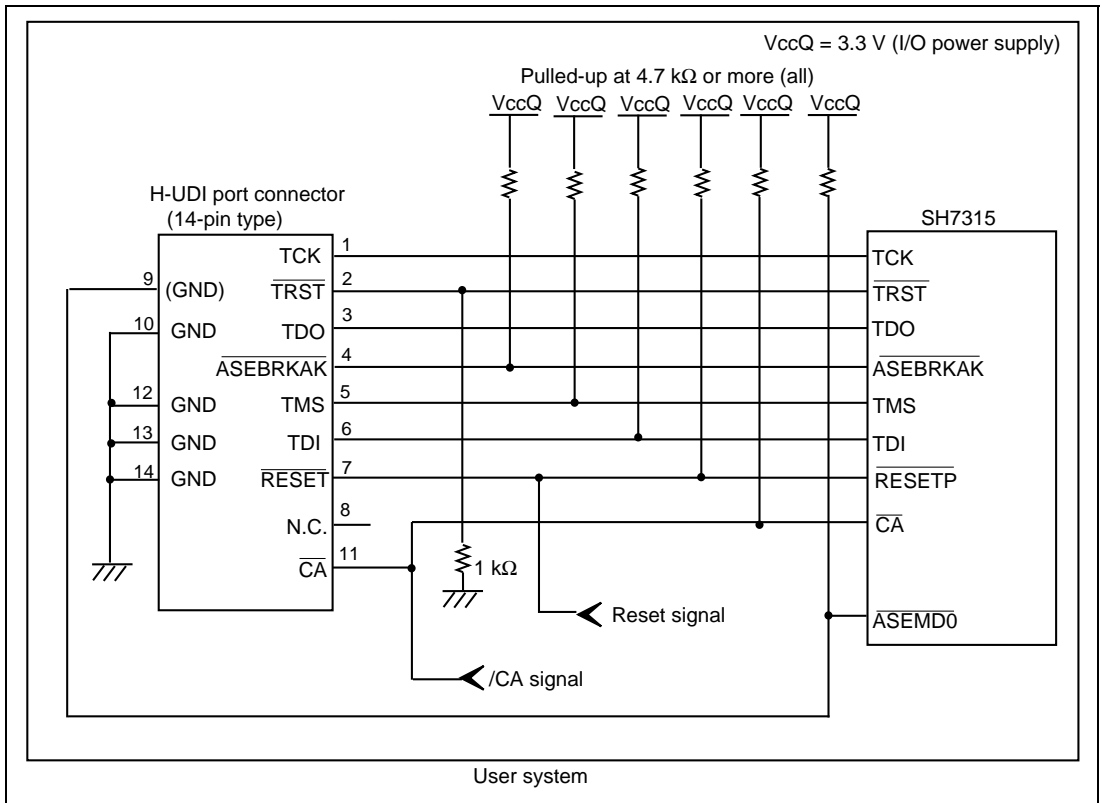

Figure 1.6 Recommended Circuit for Connection between the H-UDI Port Connector and MPU when the Emulator is in Use (14-Pin Type UVCC Not Connected)
9. Changing the emulator switches (SW2 = 0 and SW3 = 0) allows pin 11 to be used as the /CA pin. With this setting, supplying the VccQ to the UVCC pin is not available. Thus the I/O voltage level of the user system interface will be fixed to 3.3 V. Pin 8 must be N.C (open), as shown in figure 1.6.
When the circuit is connected as shown in figure 1.6, the switches of the emulator are set as SW2 = 0 and SW3 = 0. For details, refer to section 3.8, Setting the DIP Switches, in the Debugger Part of the SuperH™ Family E10A-USB Emulator User's Manual.